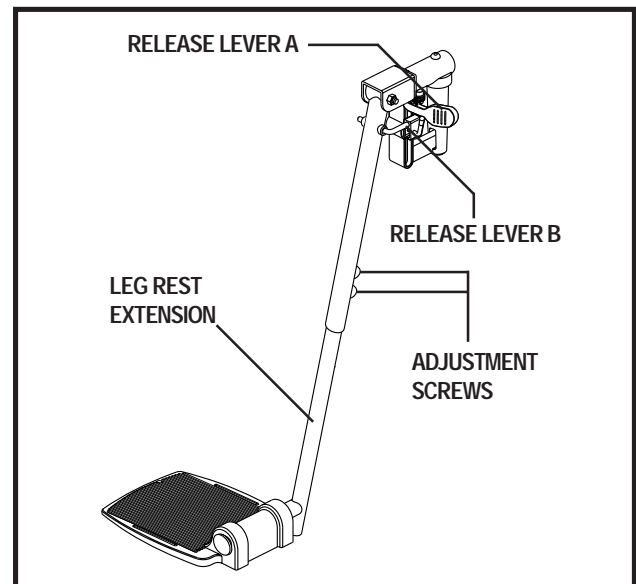

Figure 25. Elevating Leg Rest Adjustment
1. Push in release lever A. See figure 25.
1. Remove the two adjustment screws from the side of each leg rest extension. See figure 25.
1. Push down release lever B. See figure 25.